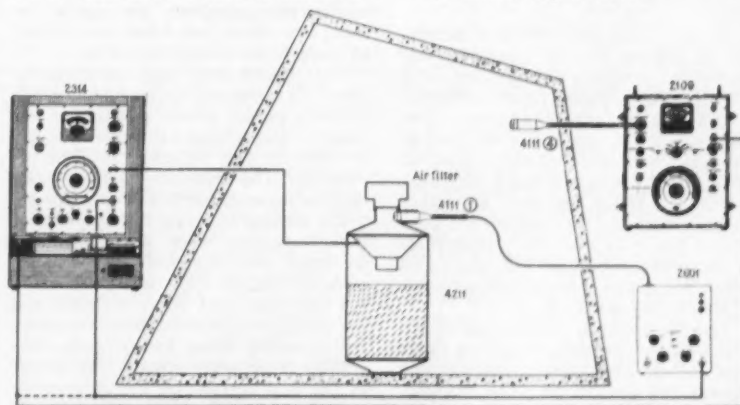

Fig. 7. Scheme for the determination of sound attenuation through an air filter with the aid of the Constant Sound Pressure Source, type 4211
Fig. 7, where item 2314 is a Beat Frequency Oscillator (B.F.O.) driving the sound source 4211, and items 4111(1) and 2601 are a microphone and amplifier feeding back to the B.F.O. compressor in order to maintain a constant level of sound output. The diffused signal registered by the Condenser Microphone 4111(4) is then analysed by the 1/3rd-octave Spectrometer 2109 whose output goes to the Level Recorder (bottom half of item 2314). Here the chart is synchronized with the B.F.O. frequency so that the recording shows the diffused sound level at the various frequencies.